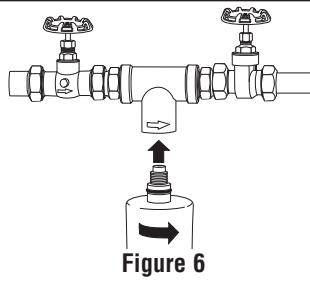

Figure 6
6. Screw cartridge to the right into the AP430SS filter head. Turn on main water supply, open valves and check for leaks. (Figure 6)